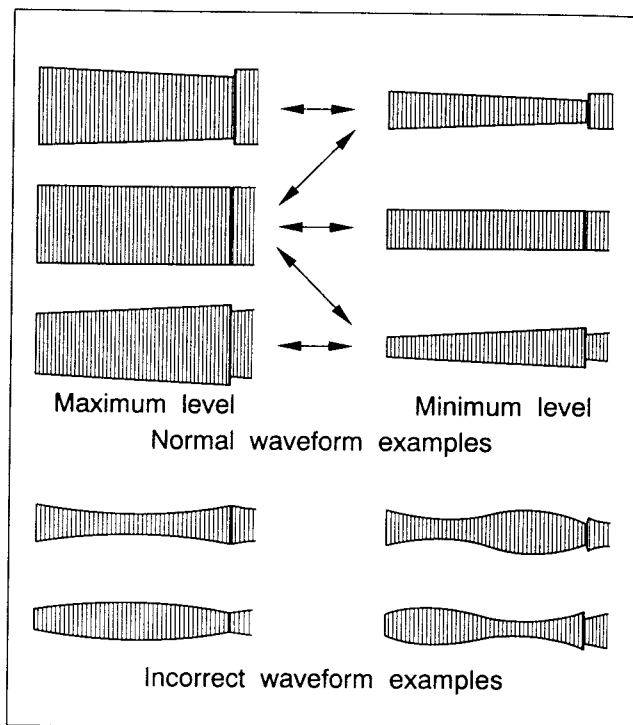

Fig. 2-7-1
- (1) Connect the oscilloscope to TP106(PB FM) on the PRE/REC board.Use TP111(D.FF) on the PRE/REC board as a trigger.
- (2) Playback the SP stairstep portion of the alignment tape [MHPE].Confirm that the FM waveform appears as indicated in Fig.2-7-1.
- (3) Set the manual tracking position by pressing the **///** button on the remote controller or TV PROG "-" and "+" buttons simultaneously.
- (4) Operate the tracking adjustment (press the TV PROG buttons during playback) and set for maximum playback FM waveform.
- (5) By operating the TV PROG button, vary the FM waveform from maximum to minimum and vice versa to confirm that the waveform varies nearly in a flat shape as shown in Fig.2-7-1.